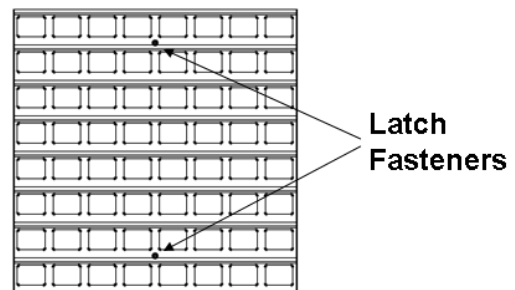

Figure 35: Module, Front View
1. Loosen the latch fasteners on the front face the LED module using a 1/8" hex wrench (or 7/32" nut driver for displays installed prior to 11/29/05). One latch fastener is centered below the top row of pixels and one is centered above the bottom row (**Figure 35**).